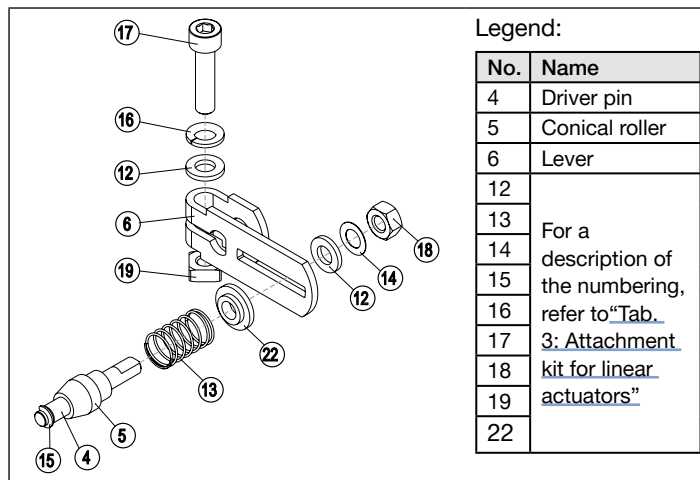

Fig. 6: Assembling the lever
- Assemble lever (if not pre-assembled) (see “Fig. 6”).